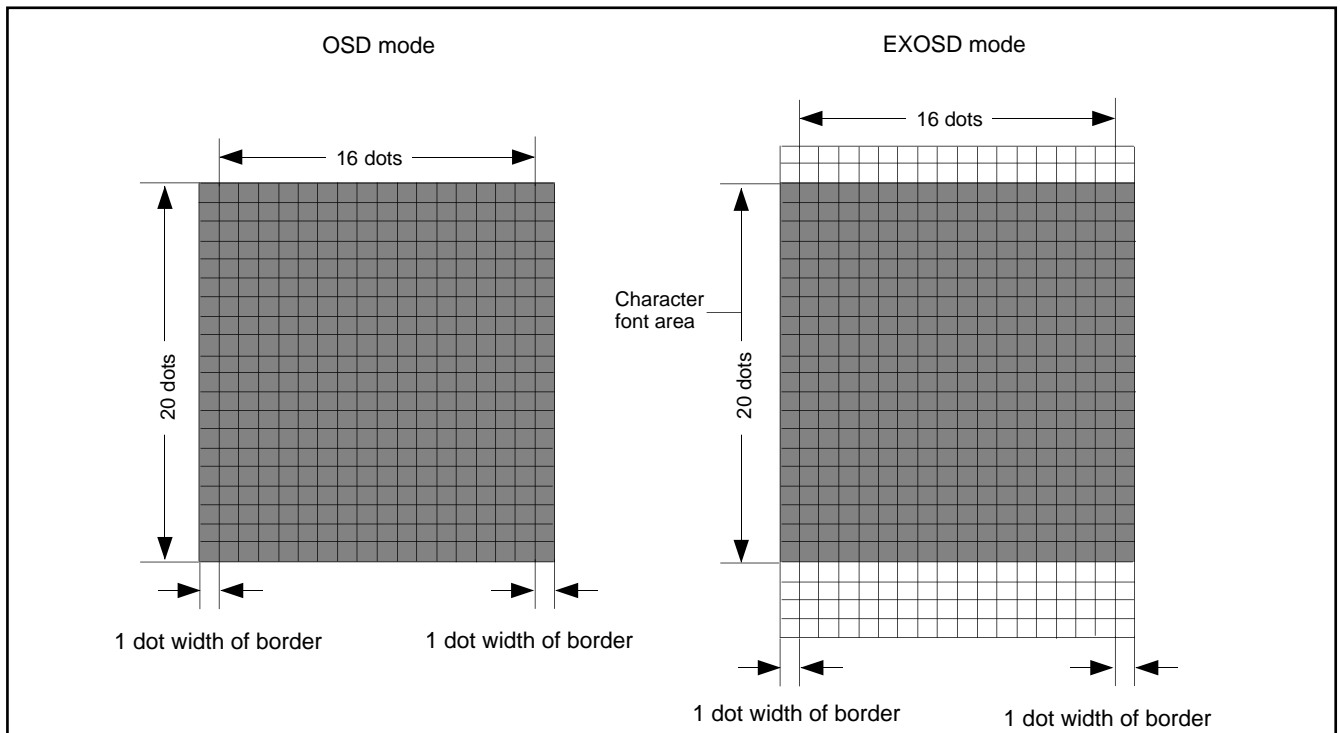

Fig. 72. Border area
**2 :** The border dot area is the shaded area as shown in Figure 72. In the EXOSD mode, top and bottom of character font display area is not bordered.